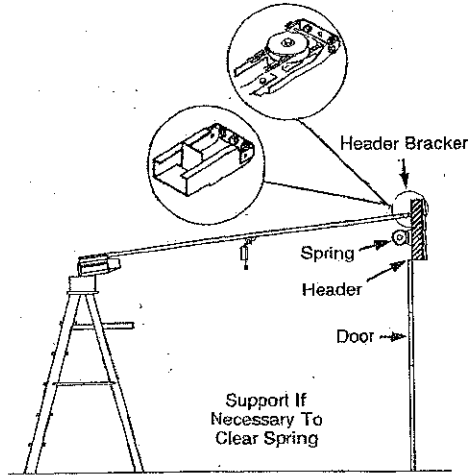

Fig. 5 Attaching Operator to Header Bracket
4. Attach operator to header bracket (Fig. 5).